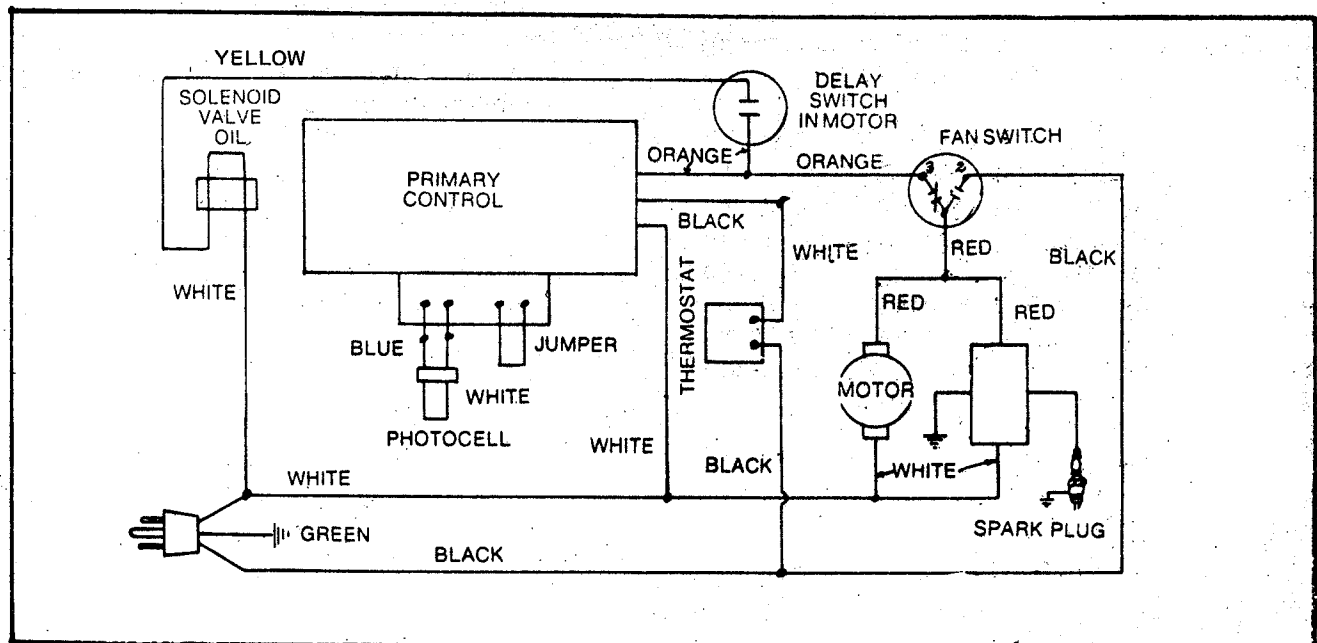

Figure 1. Wiring Diagram
The following is a description of the normal automatic operating sequence of the heater (See the Wiring Diagram, Figure 1).
Test fire the heater to make sure it will function properly. If it does not, check all wiring connections according to the wiring diagram. Figure 1.
7. After replacing control system components, test fire the heater to make sure it will function properly. If it does not, check all wiring connections according to the wiring diagram, Figure 1. Repeat the testing procedure if necessary.
Spark plug dirty or not properly gapped.	Reset spark plug after cleaning, according to dimensions in Figure 1.
Improperly wired after servicing.	Check wiring according to Wiring Diagram, Figure 1.